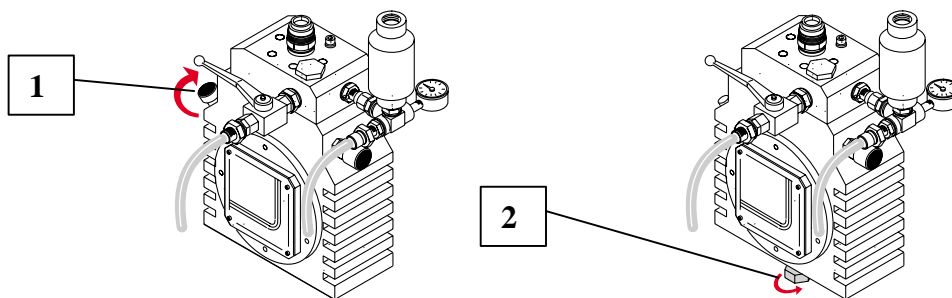

Fig.41
- a) Remove the oil level cap (1, fig. 41)
- b) Unscrew the discharge cap placed under the pump casing and let the oil flow out (2, fig. 41).